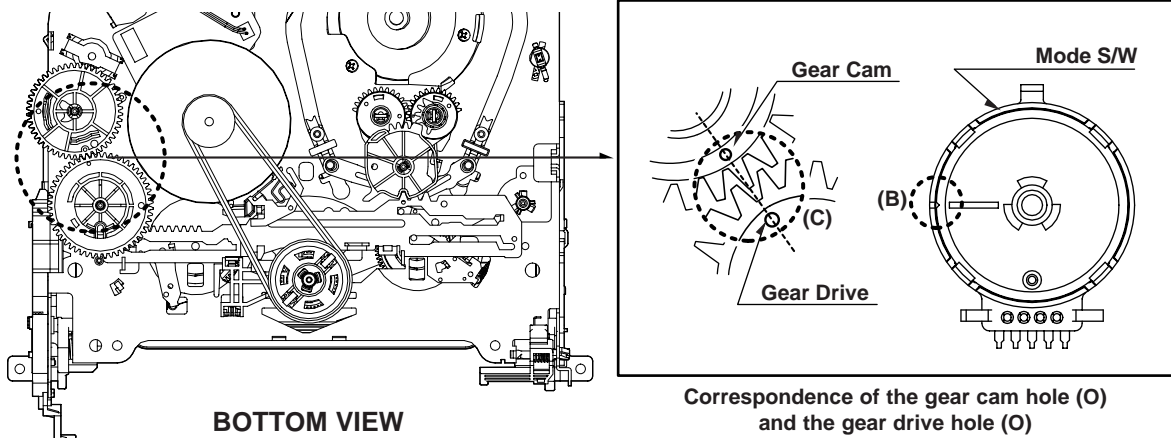
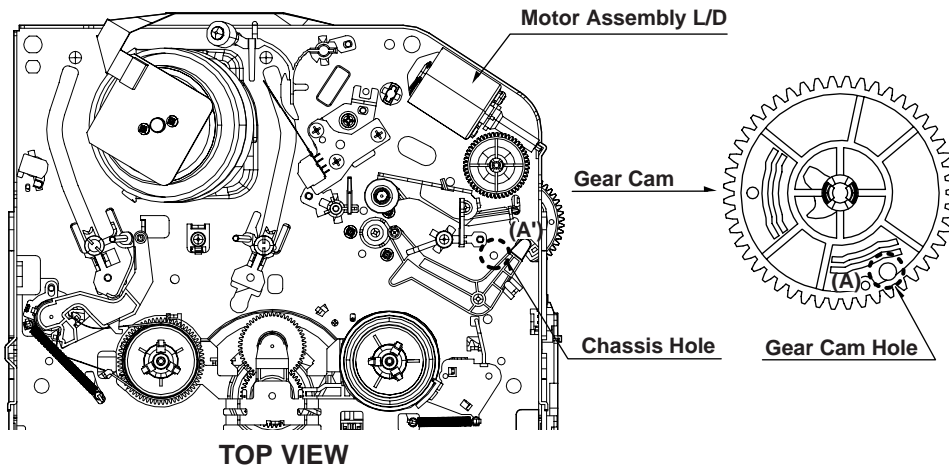

Fig. C-1
Fig. C-2
1) Turn the VCR on and take the tape out by pressing the eject button. 2) Separate both top cover and plate top, and check both the hole (A) of gear cam and the hole (A') of chassis correspond (Fig. C-2). 3) If it is done as in the paragraph 2): Turn the gear cam after mantling the motor assembly L/D. 4) Undo the screw fixing the deck and the main frame, and separate the deck assembly. Check both the hole (A) of gear cam and the hole (A') of chassis correspond (Fig. C-1). 5) Check the mode S/W on the main P.C. board locates at a proper position as in (B) of the Fig. (C-1). 6) Connect the deck to the main P.C. board and perform all types of test.